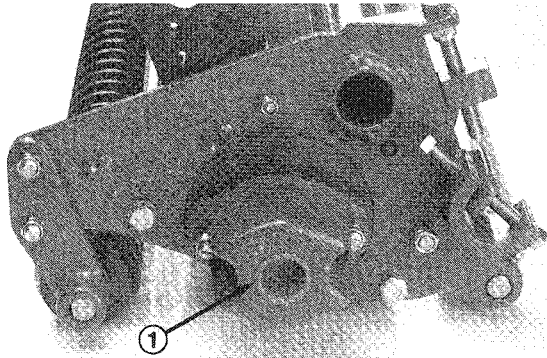

Figure 12
INSTALL REEL SPEED SENSOR (Fig. 12–13)
1. Remove the (2) nuts securing the counterweight to the left end of the left front (#4) and left rear (#2) cutting units and remove counterweights (Fig. 12).